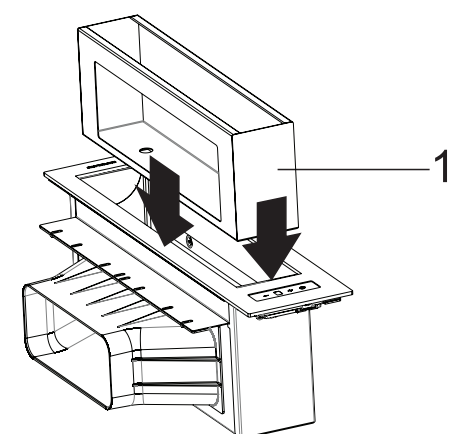

Fig. 34
15. Place the metal container towards the arrow inside the appliance (Fig. 34).